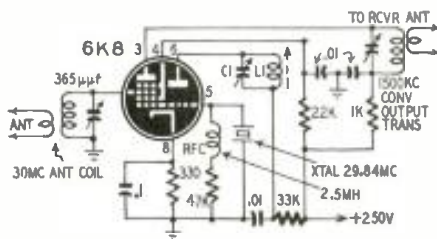
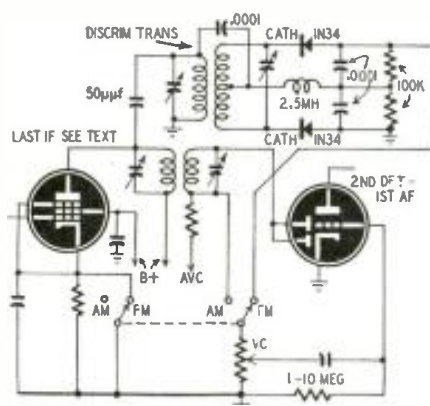

Fig. 1—Crystal controlled converter.
Fig. 2—The circuit of the FM adapter.
A. The crystal-controlled converter is shown in Fig. 1 and the FM adapter in Fig. 2. A 30-mc antenna is coupled to the input of the 6K8 converter tube through a 30-mc antenna coil tuned by a standard single-section, 365-μf capacitor or padder. The crystal frequency of 29.84 mc is selected so the 31.34-mc signal will be received when